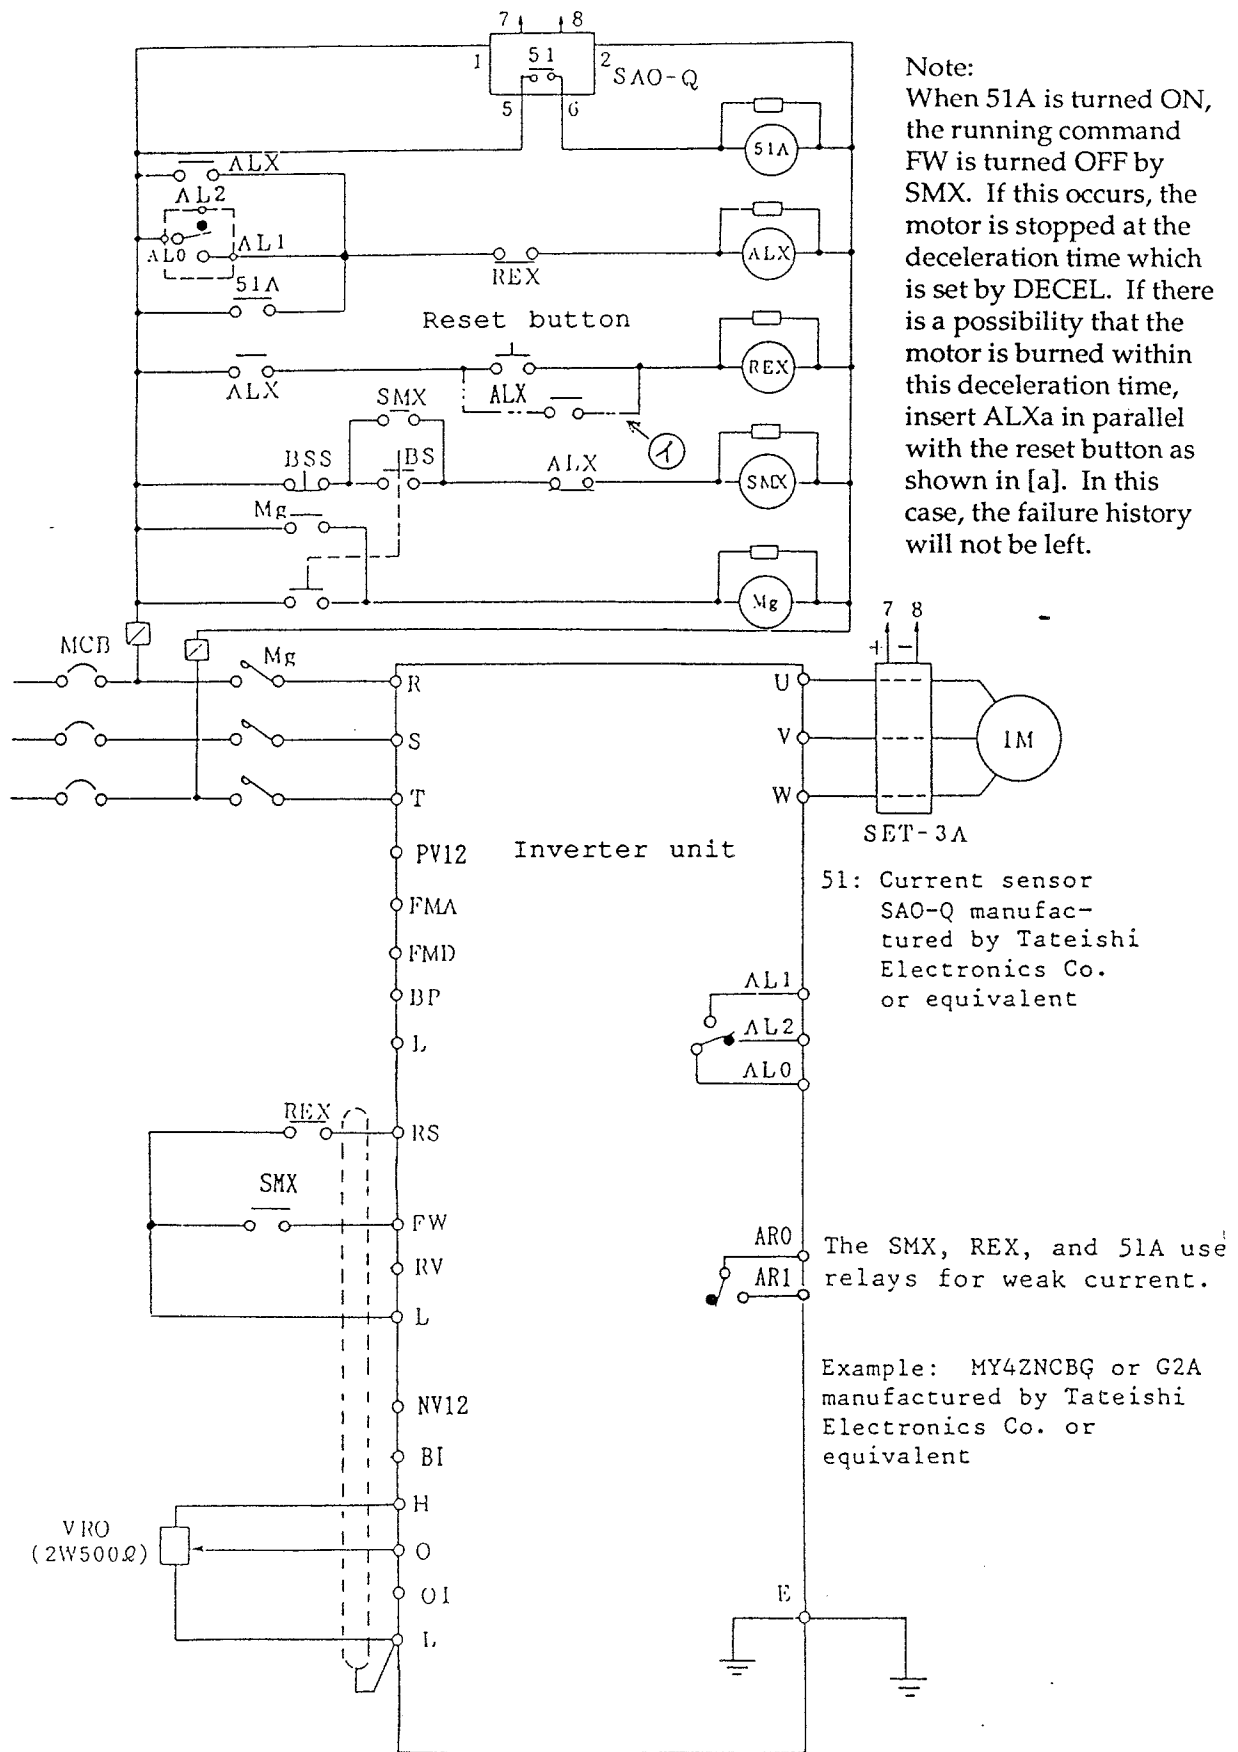

Figure 8-2 Standard Sequence 2 (The forward operation and fault alarms are retained.)
In the sequence in Figure 8-2, fault alarms remain. To reset them, open the Mg relay on the input side or press the reset button (RS).